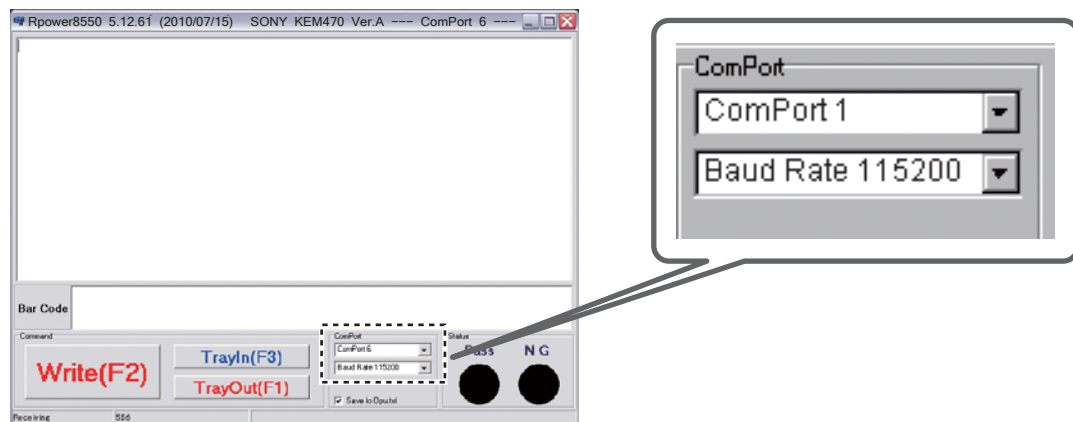

Fig. 6
The screen appears as shown below. (Fig. 6)
3. Select the port and baud rate. (Fig. 6)